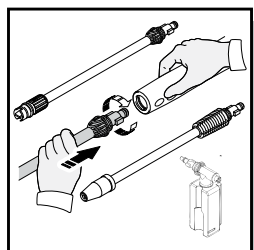

Fig. 8
- While the spray gun is in the locked position, insert the turbo lance, the adjustable spray lance, or the detergent bottle directly into the end of the spray gun by inserting and pushing together and turning clockwise simultaneously. To remove push together and turn counter clockwise (Fig. 8). Push the safety lock button to lock the trigger when changing lances or detergent tank, to ensure that they do not accidentally eject with force during removal.